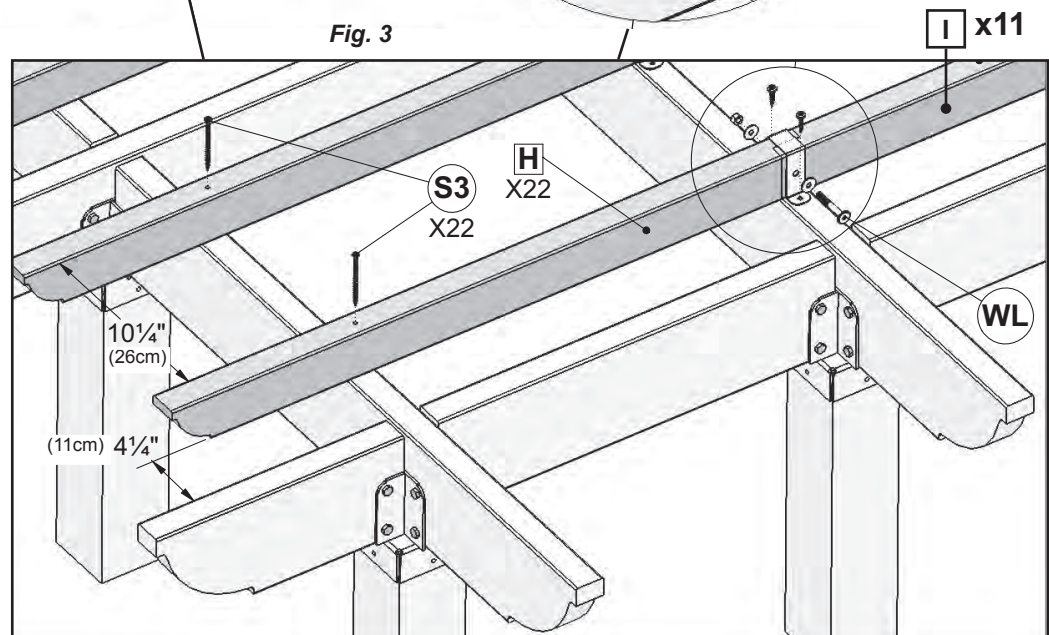

Fig. 2
2. Layout the roof on the beams as shown in figure 2.